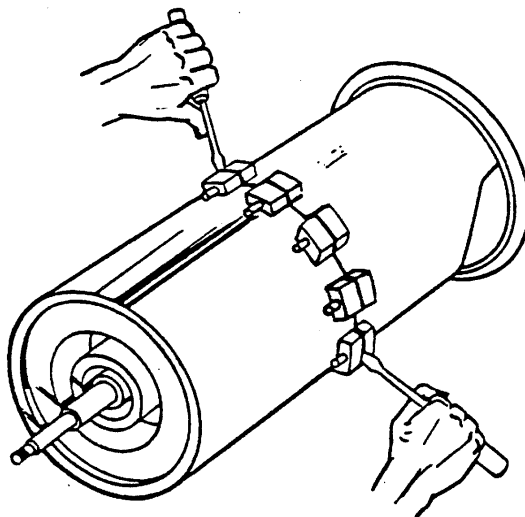

Figure 4. Separating Upper And Lower Motor Housings
Remove the deformed locknuts (59), and separate the lower motor housing (11) from the upper motor housing (19). If necessary, pry the housings apart using two screwdrivers as shown in Figure 4. When the motor housings separate, remove the motor housing gasket (15).